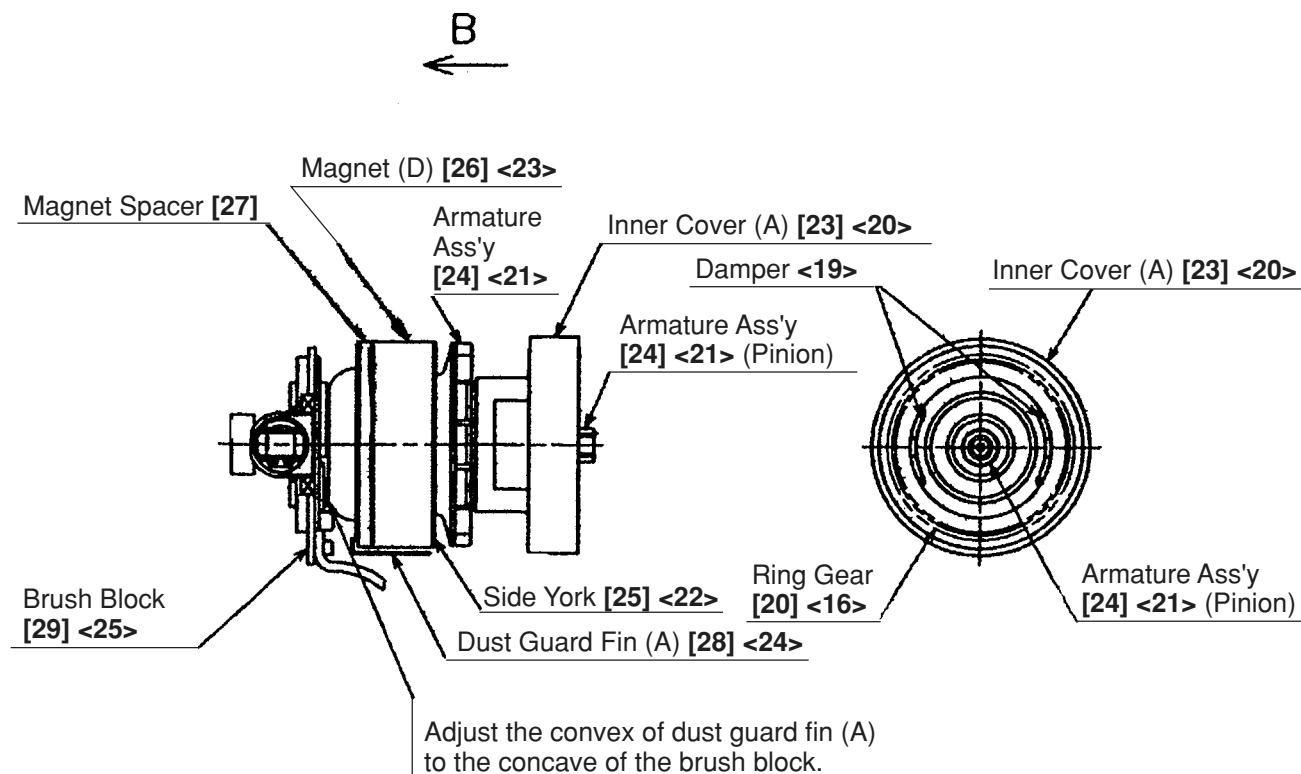

Fig. 4
(10) Removal of Magnet (D) [26] <23>, Dust Guard Fin (A) [28] <24>, Side Yoke [25] <22> and Magnet Spacer [27] (Model WH 9DM2 only)
Magnet (D) [26] <23> has a strong magnetism. Pull Magnet (D) [26] <23> in the "B" direction (see Fig. 4) holding Inner Cover (A) [23] <20> securely to remove it. Dust Guard Fin (A) [28] <24> and the Side Yoke [25] <22> can be easily removed from Magnet (D) [26] <23> by holding Magnet (D) [26] <23> securely and pulling them in the direction of diameter because they are mounted to Magnet (D) [26] <23> magnetically.